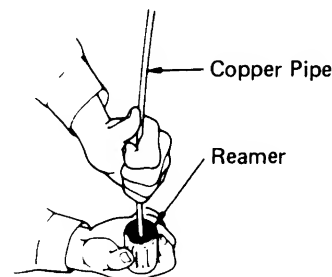

Fig. 24
**Note :** When reaming, hold the pipe end downward and be sure that no copper scraps fall into the pipe. Fig. 24